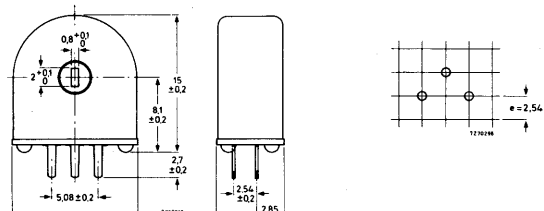

Fig.2b
- 31 = dust-covered version for vertical mounting (Fig.2b)